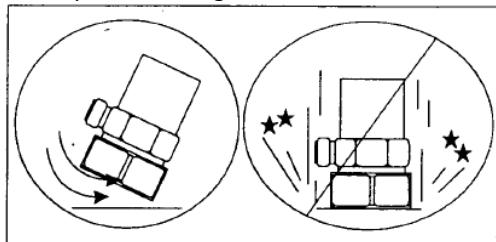

Figure 10. Magnet Mounting
**STEP 4:** Mount the magnet/sensor assembly to the prepared test surface by gently “rocking” or “sliding” it into place. See Figure 10.